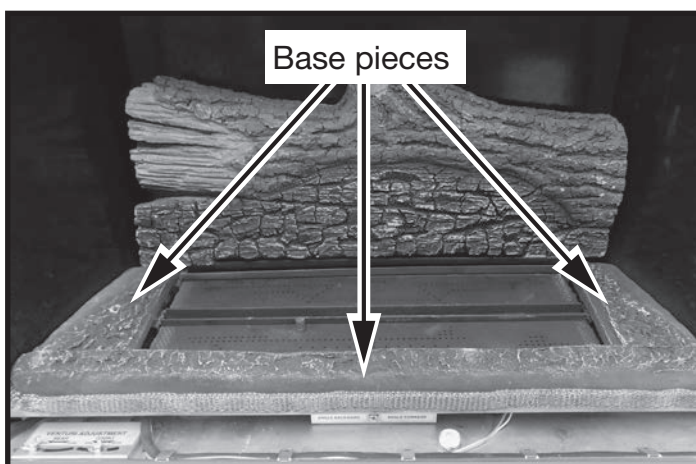

Figure 74: Three base pieces.
7. Install the three base pieces (Figure 54) as shown in Figure 74. The base pieces, in addition to adding an aesthetic dimension to the overall appearance, help to complete an enclosure for holding the ember pieces / glowing ember material pieces on top of the burners. The left-hand side piece has one hole to accept the post protruding from the bottom of log number two. The right-hand piece has two holes. Use the front hole only.